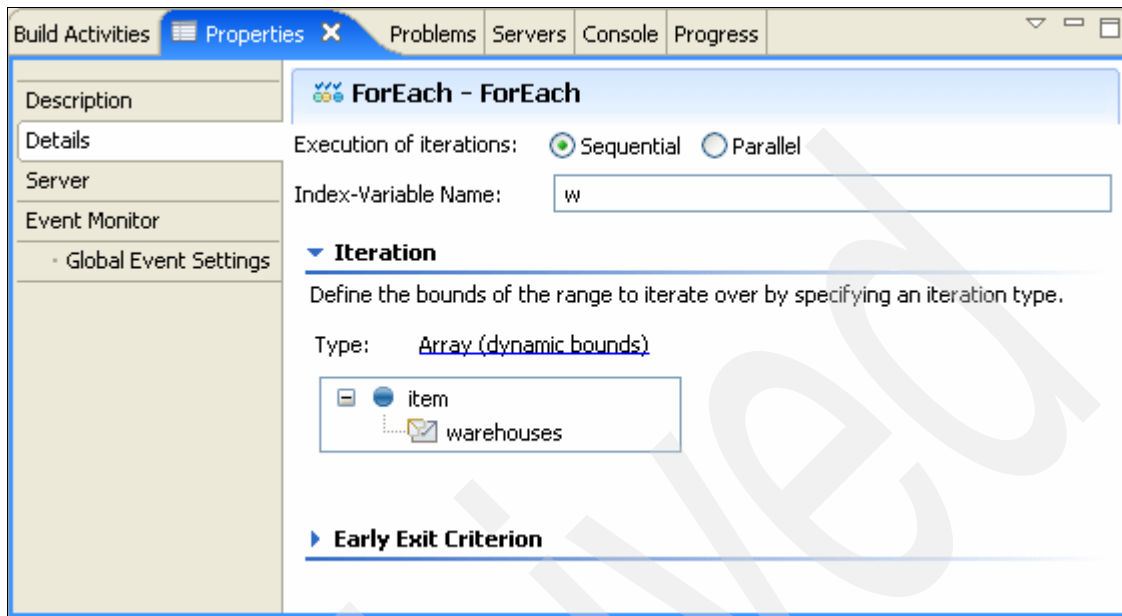

Figure 3-192 ForEach details
6. Verify the ForEach activity details as shown in Figure 3-192.